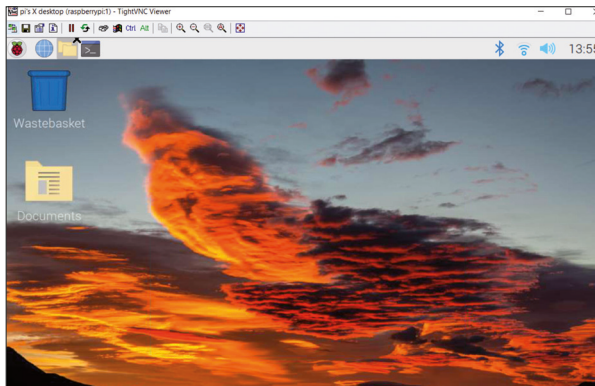

Figure 1.12: Raspberry Pi 5 Desktop.
- Enter the password you have chosen earlier. You should now see the Raspberry Pi 5 Desktop displayed on your PC screen (Figure 1.12)